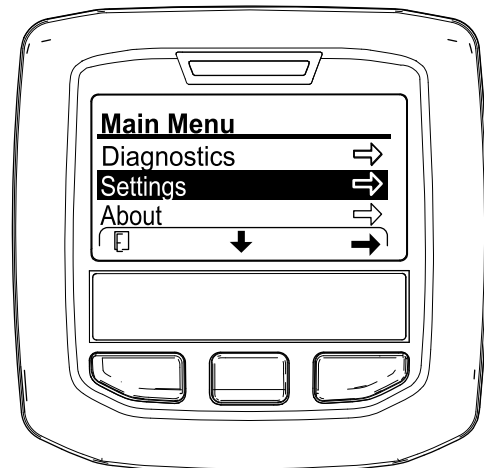

Figure 122
- In the InfoCenter, navigate to the MAIN MENU (Figure 122).